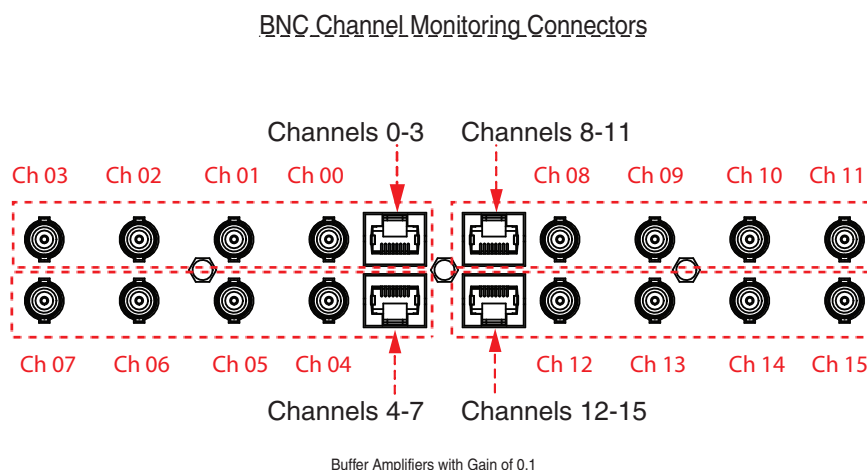

Figure 10: RJ45 channel assignments
1. Connect one end of the RJ45 cable to the desired channels (A).
2. Connect the other end of the RJ45 cable to the monitoring connector (B)
3. Connect a BNC cable to a BNC jack (C) and connect the other end of the cable to the desired monitoring device. The BNC jacks each connect to one of the 4 channels of the RJ45 Connector (A). In the example shown in Figure 10, the RJ45 cable is connected to channels 00-03. The mini-BNC cable jacks, identified as A, B, C, D, represent each channel in the following order; A = channel 0, B = channel 01, C = channel 02, D = channel 03 (see Figure 10 for illustration).